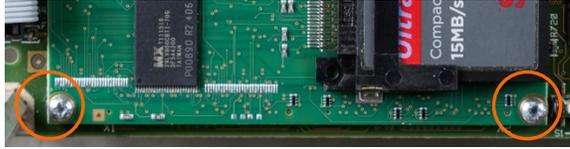
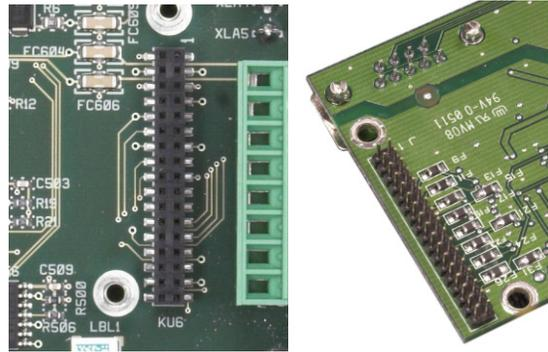

Figure 4-52: ETX Board Mounting Screws
Figure 4-61: PLC Interface Module Socket on Main PCB (left) and Connector Pins on the Underside of a Module (right)
11. Remove all peripheral connectors from their sockets – COM1, COM2, Ethernet, USB, power and video. Connector locations are indicated in Figure 4-52.
13. Unscrew and remove the six screws holding the main PCB to the enclosure. Their locations are circled in Figure 4-52. In the case of a panel mount terminal, the four outer fasteners will be hex post stand-offs, as shown in Figure 4-53.
1. Remove the two screws holding the lower card guide and the ETX board to the main PCB (Figure 4-52). The locations of these screws are indicated in Figure 4-55.
1. Note the orientation of the ETX board indicated in Figure 4-52. The ETX connectors are arranged so that it cannot be installed backwards.
To remove a CF card from the ETX board, hold the sides of the CF card and carefully slide it out of its socket, in the direction indicated in Figure 4-61. It may be necessary to move the card slightly side to side to disengage it. If any PLC interface module option is installed, it may need to be removed first.
Note that Figure 4-61 shows the CF card in the same orientation as in Figure 4-52.